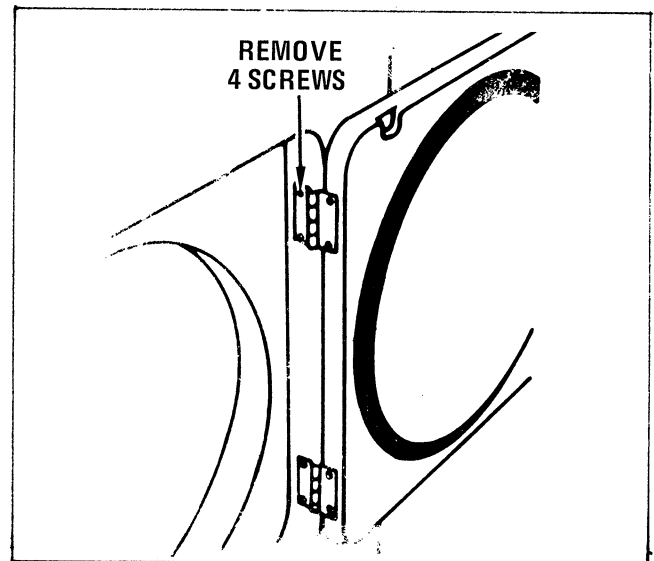

Figure 59-5
1. Open door and remove four screws securing hinges to the inner door panel, Figure 59.5.